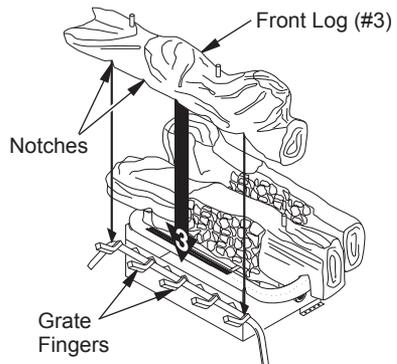

Figure 31 - Installing Front Log (#3)
3. Locate the notches in bottom of front log (#3). Place front log on grate fingers. Make sure notches of front log line up with grate fingers (see Figure 31).